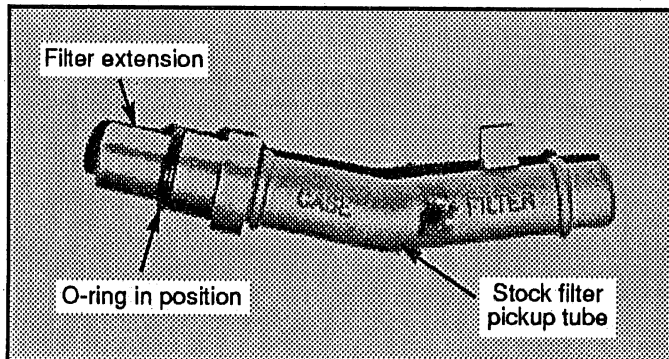

Figure 4
**STEP 5.** Lubricate the O-rings with ATF and push the extension tube onto the transmission end of your stock oil pick-up tube. Push the extension tube onto the pick-up tube until it stops against the shoulder on the pick-up tube. (See Fig. 4)